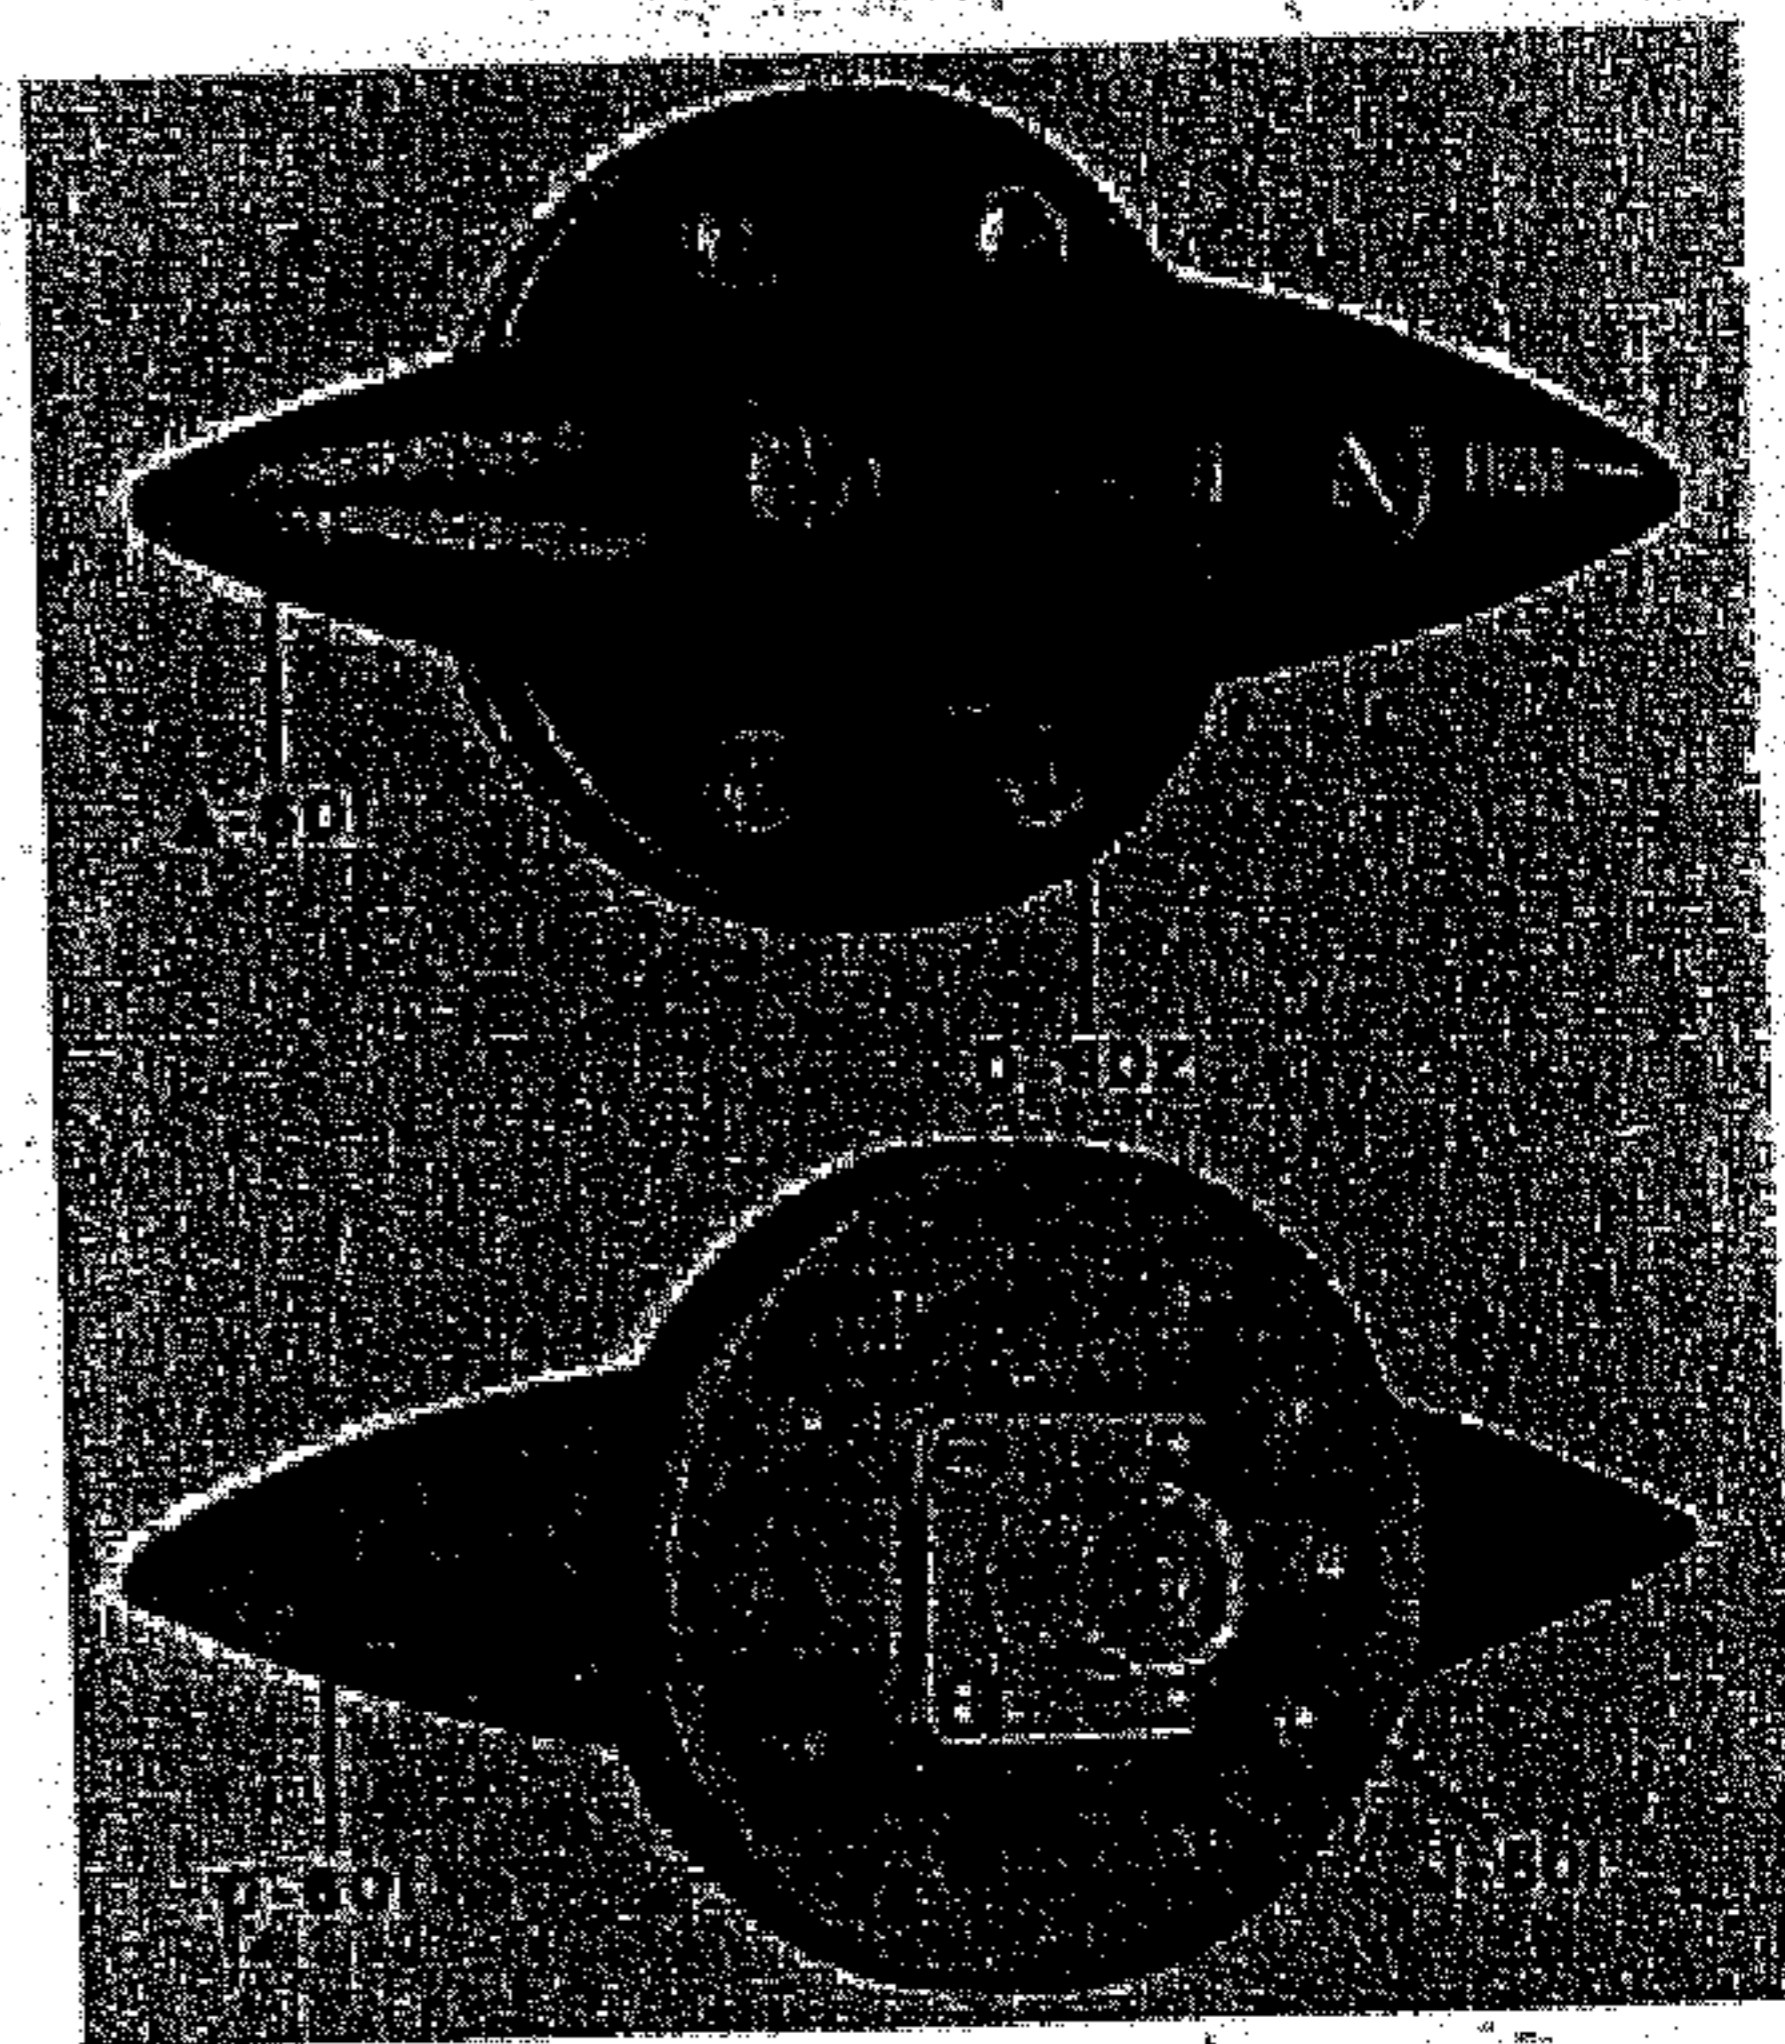

Figure 1-12. Coupling Unit CU-65/ARN-6 or CU-65A/ARN-6
**k. COUPLING UNIT CU-65/ARN-6.** (See figure 1-12.)—Coupling Unit CU-65/ARN-6 is a small streamlined enclosure attached to a rain-tight mounting plate which mounts on the skin of the aircraft. The coupling unit provides a female connector for the antenna transmission line and an antenna input terminal. Electrically the unit provides circuit connection between the antenna and the transmission line.
**kA. COUPLING UNIT CU-65A/ARN-6** is a ruggedized version of Coupling Unit CU-65/ARN-6 and has identical mountings and couplings. (See Figures 1-12.)